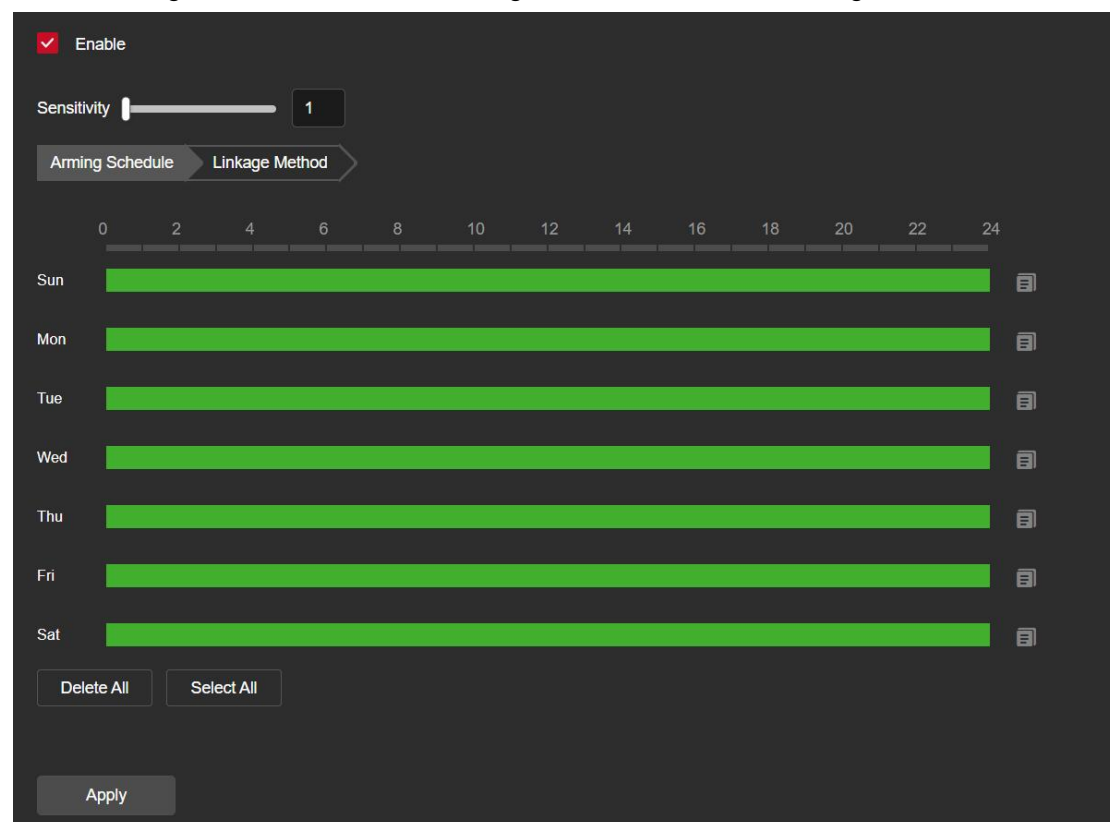

Figure 8-6-18
Step 1: On the main interface, click "Configuration → Events → Common Events → Scene Change" to enter the scene change interface, as shown in Figure 8-6-18 below.